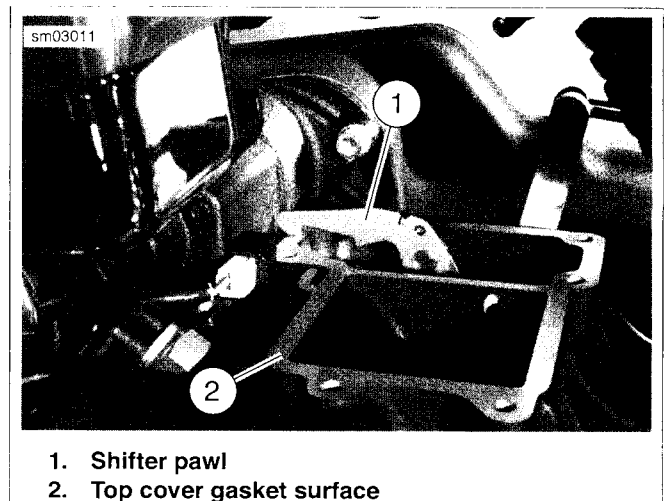

Figure 6-8. Set Shifter Pawl on Gasket
9. See Figure 6-8. Place shifter cam pawl on top cover gasket.